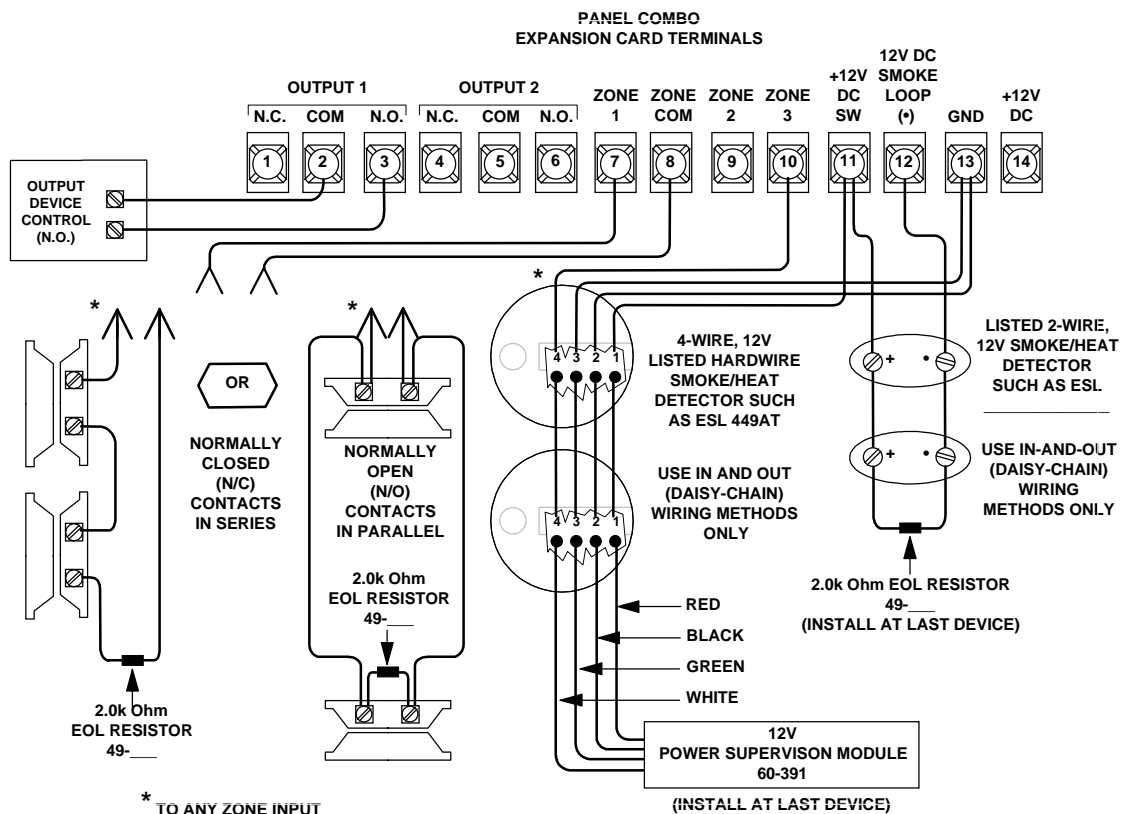

FIGURE 2-7. Combo SnapCard Wiring Diagram.
4. Wire the input devices to the card. Refer to Figures 2-7 through 2-9 Tables 2-2 through 2-4.